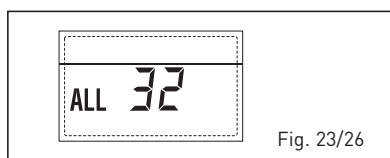

Fig. 23/26
– **RS-485 BOARD COMMUNICATION ANOMALY IN MODBUS MODE “ALL 33” (fig. 23/27)**